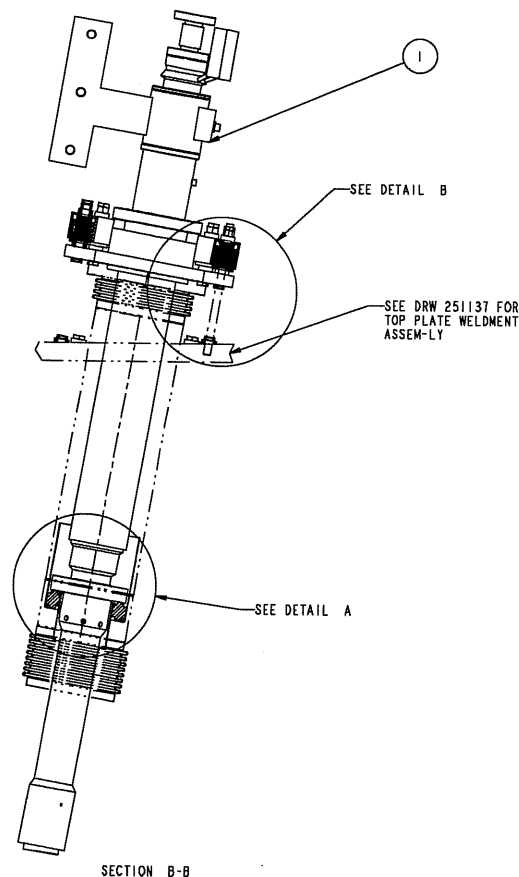

Figure 5.7. HTS Lead in Test Chimney. Note: CERN chimneys do not have bellows.
- 5.7** Install Pirelli Leads per Figure 5.7. Install P1 on the left hand side of picture 5.3 and P2 on the right hand side. Note: if there is a gap between the test facility Conflat flange and the Pirelli flange, pull the bellows up and close the gap. Use the nuts on the tensioning studs to hold the lead in place while the 20 conflat bolts are tightened. Use the 12-point bolts and wrench provided by LBNL to connect the flanges. **The bolts are not metric.**